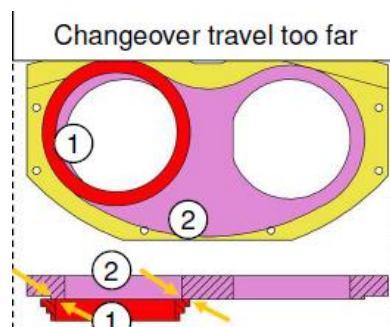

Figure 2
Detail applicable to Figs. 2 and 3. The sealing area between the wear ring (1) and spectacle plate (2) is too small, due to the lack of overlap.